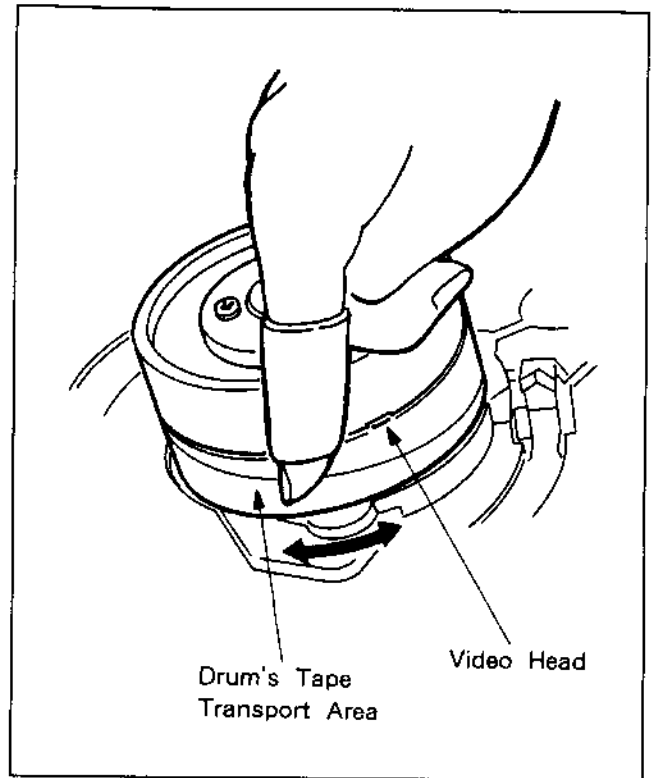

Fig. 4-1-1.
1. Drum (COMPL CYLINDER) and Video Heads (See Fig. 4-1-1.)